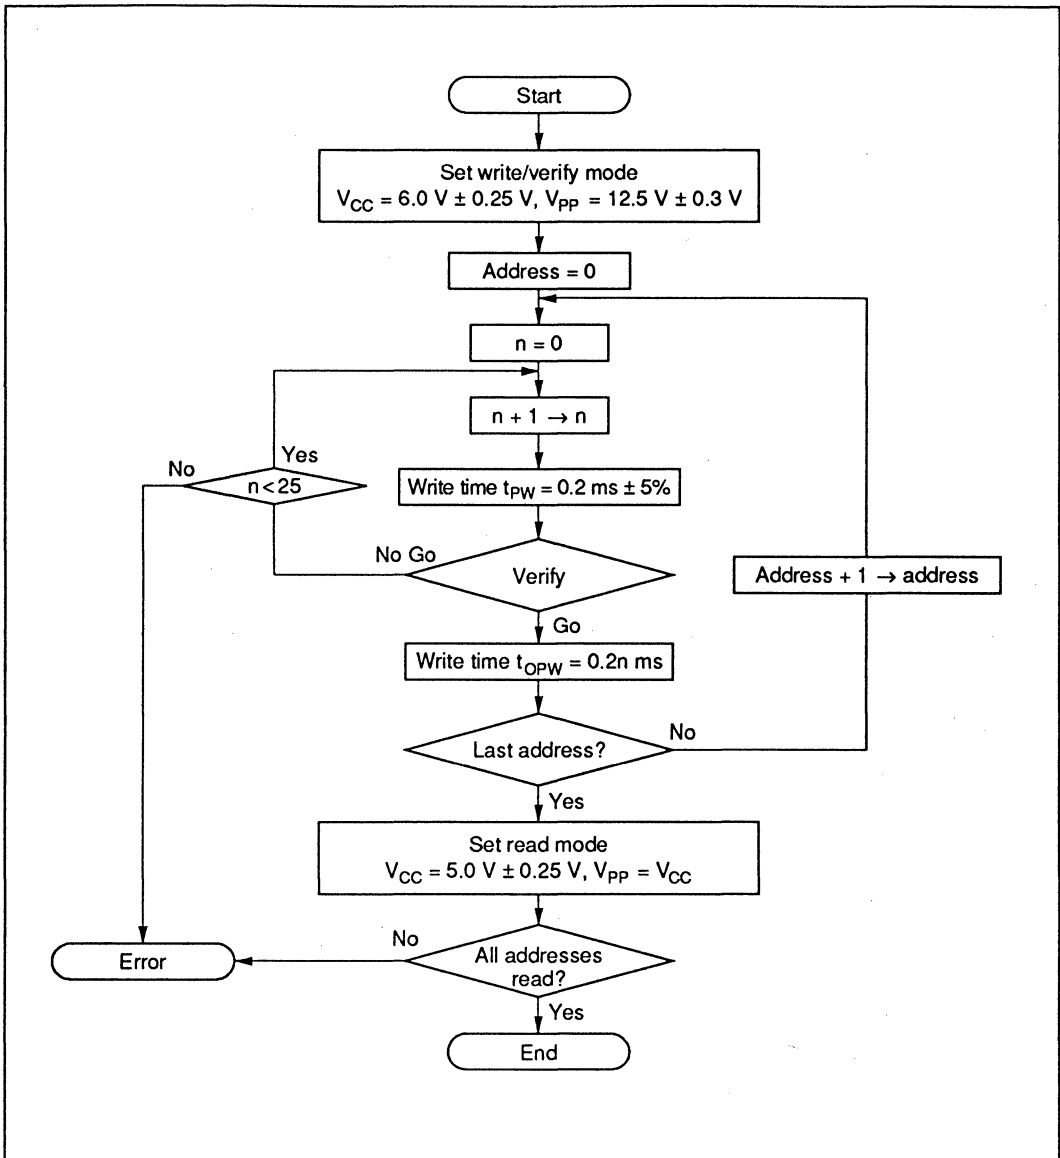

Figure 6-8 High-Speed, High-Reliability Programming Flow Chart
An efficient, high-speed, high-reliability method is available for writing and verifying the PROM data. This method achieves high speed without voltage stress on the device and without lowering the reliability of written data. The basic flow of this high-speed, high-reliability programming method is shown in figure 6-8.
3.  $t_{OPW}$  is defined by the value given in figure 6-8 high-speed, high-reliability programming flow chart.